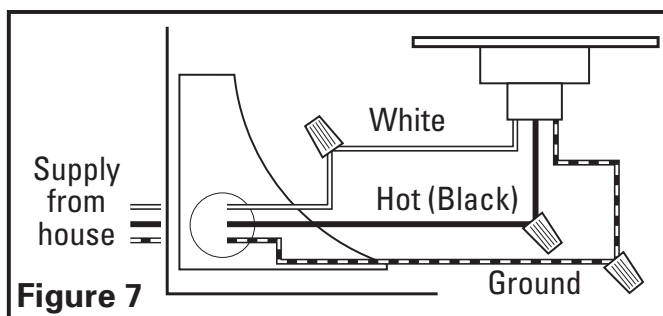

Figure 7
2. From where you have access to inside the fan's junction box, connect the White wire from the house to the White wire from the fan's receptacle. Connect the Black wire from the wall switch to the Black wire from the fan's receptacle. Connect the ground wire from the house to the Green wire from the fan's receptacle (**Figure 7**). Use approved methods for all connections.